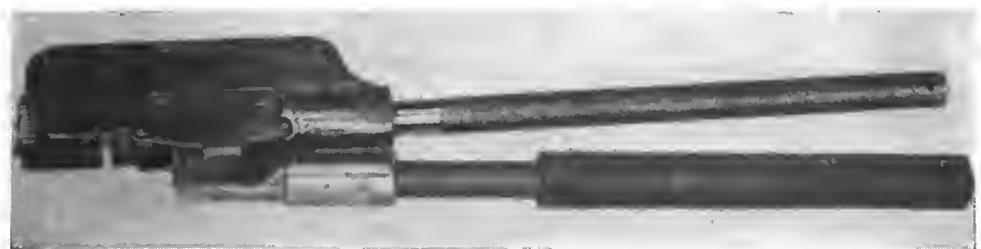

Figure 177. Hand-swaging assembly.
(2) To mark a piece of material, the proper stamp is held perpendicularly to the surface of the material and struck one blow with a hammer. Striking the stamp more than once will make a blurred cut and should be avoided.
(3) Some materials should not be marked with figure and letter stamps. The marking distorts, strains, and weakens the material slightly. On pieces of equipment that might be damaged seriously by the stamps, identification should be made in some other manner, such as with an electric pencil.
e. SWAGING ASSEMBLY. A swaging assembly is shown in figure 177. It is used to fasten the end of a control cable to a fitting. The swaging assembly actually squeezes the metal of the fitting around the end of the control cable. It has individual dies to be used for the various-sized fit-